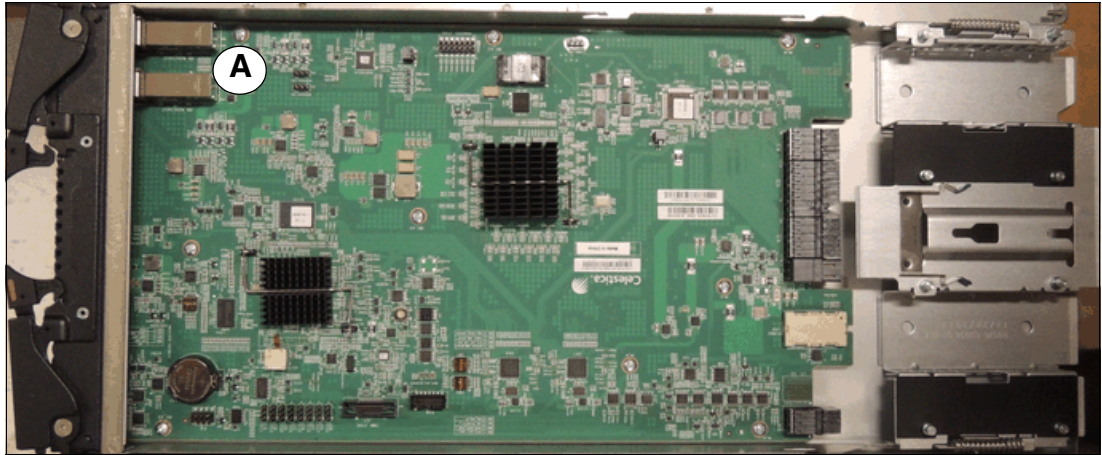
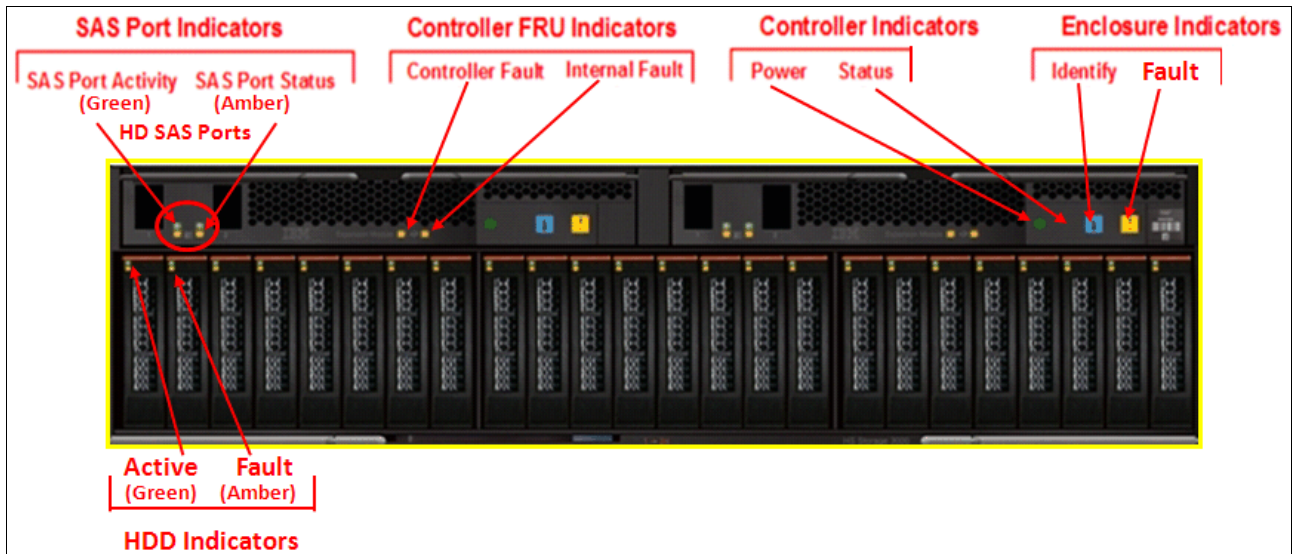

Figure 2-6 Components and board layout of the expansion canister
Figure 2-7 Expansion enclosure with connection ports and indicators
The expansion canister connects the expansion disks to the control canister using the SAS2 6 Gbps chain interface. This module also enables the daisy-chaining of additional expansions to be connected behind it to further expand the capacity of the system's storage. The expansion canister is also a Customer Replaceable Unit (CRU). Figure 2-6 shows a picture of the expansion canister with its cover removed.
As shown in Figure 2-6, the expansion canister does not contain a battery backup unit as the control canister does. It does have an additional SAS2 connection (A) on it to allow for the continuation of the chain to additional expansions. Figure 2-7 shows the SAS connection ports and the status indicators on the front of the expansion enclosures.